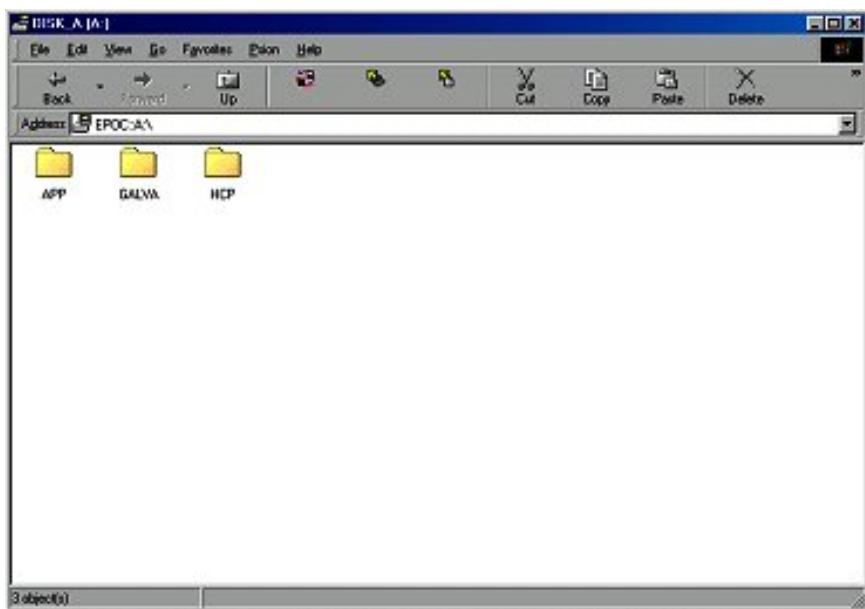

Fig. B3. Explorer screen for My Psion (A-drive)
10. The A-drive is the Flash-memory card. On the A-drive the FORCE software is installed as backup. Fig. B3.